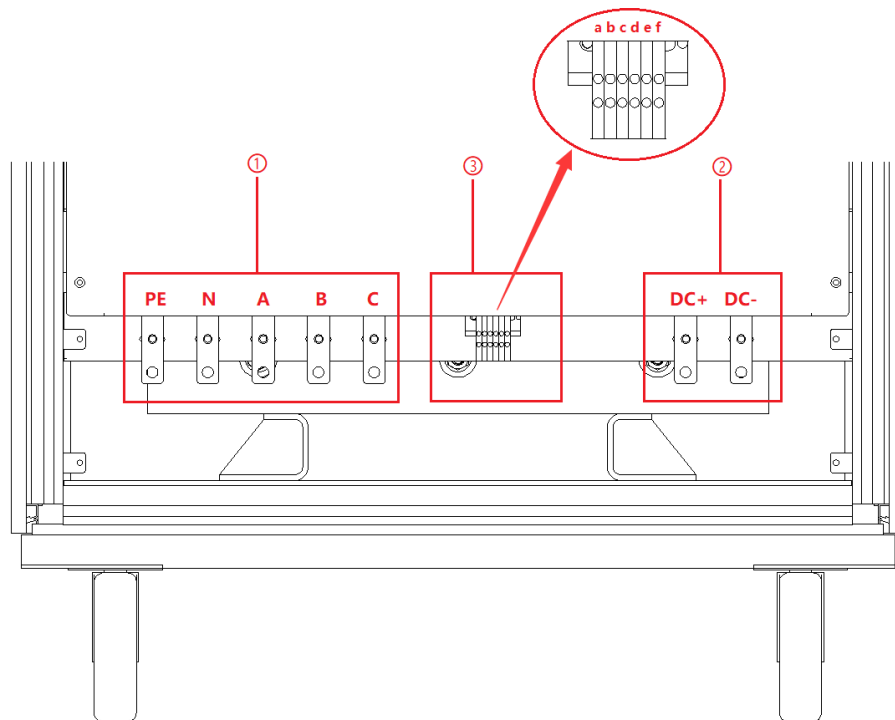

Figure 1-11
External emergency stop interface is located in the wiring layer inside the power supply-③: c, d (Figure 1-11). The voltage between the two terminals is 24V.